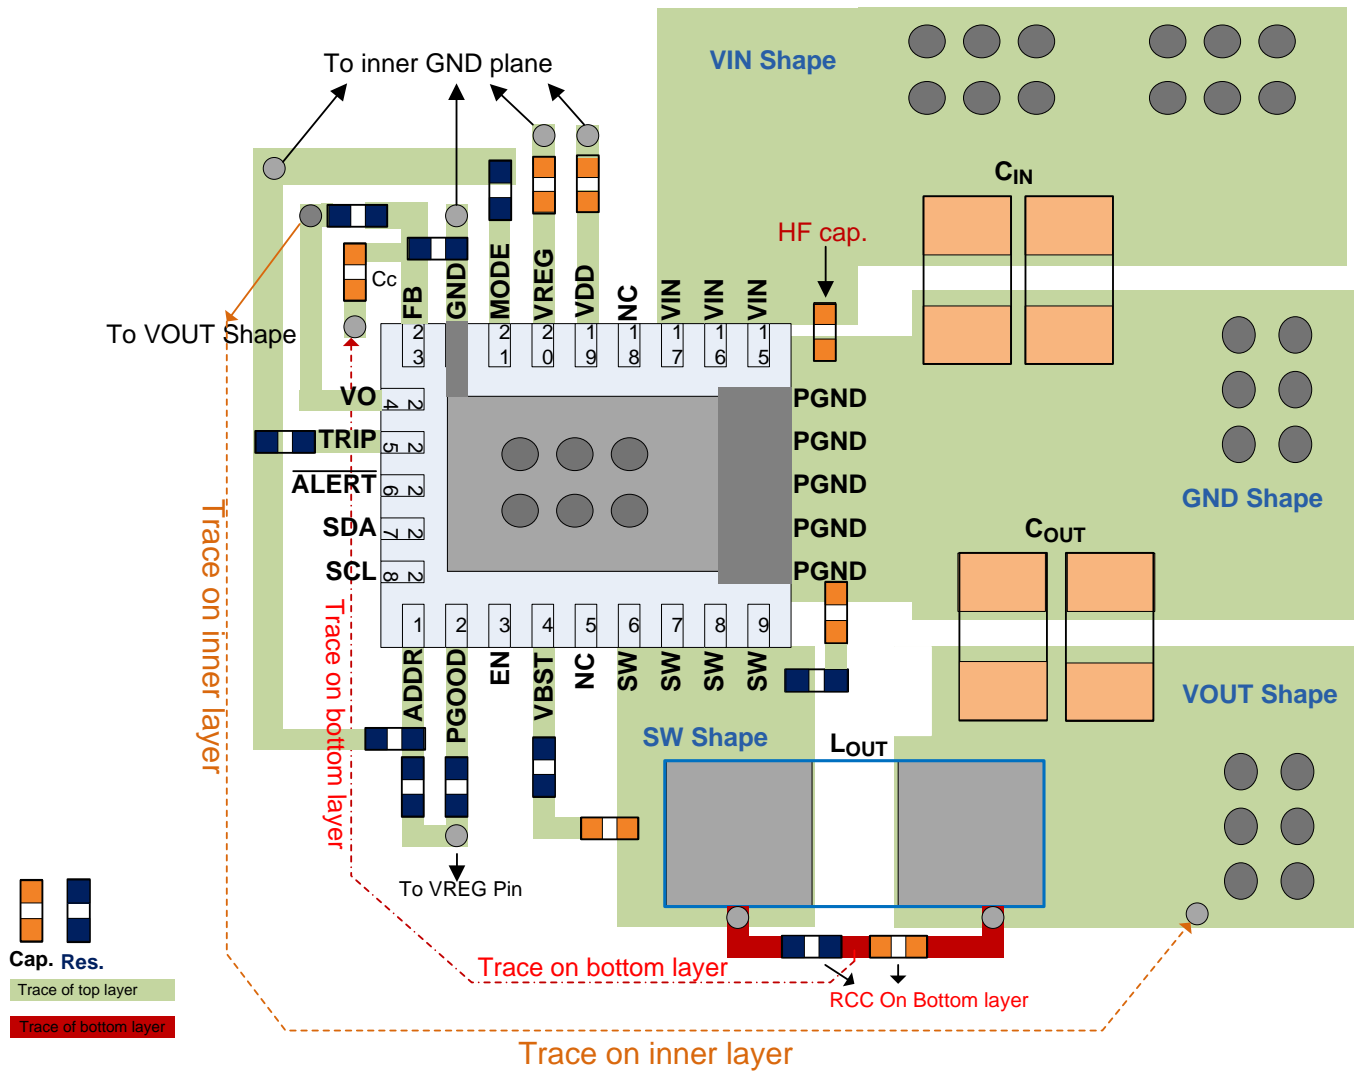

图 54. Layout Recommendation
- See 图 54 for the layout recommendation.